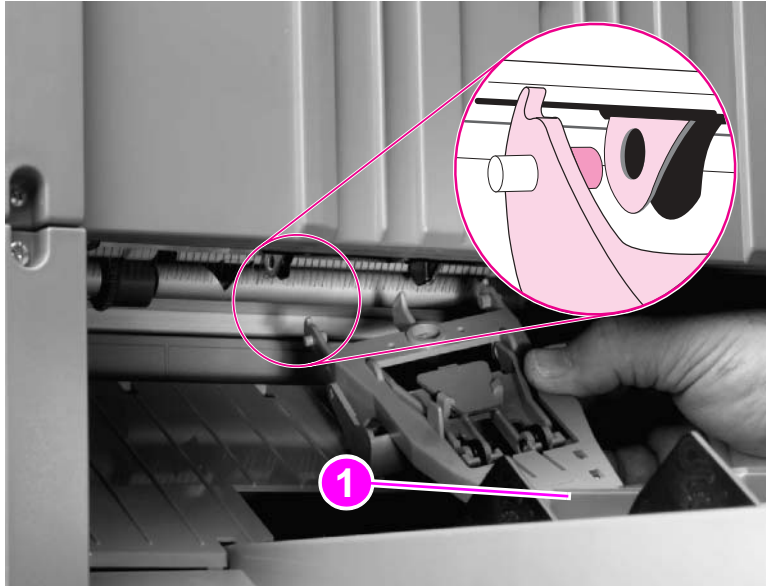

Figure 65.
- 3 Gently pull the two locating pins outward to release them. See the detail in figure 65.